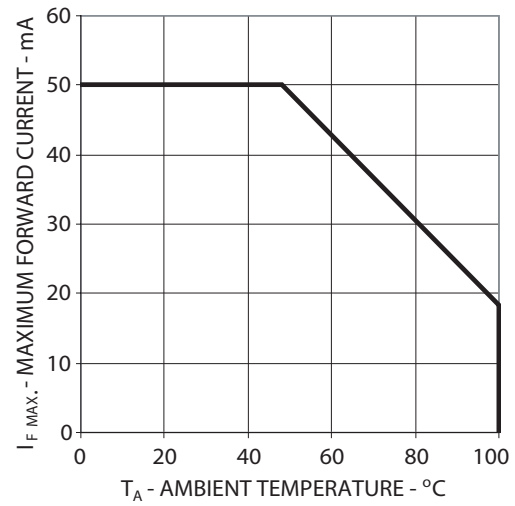
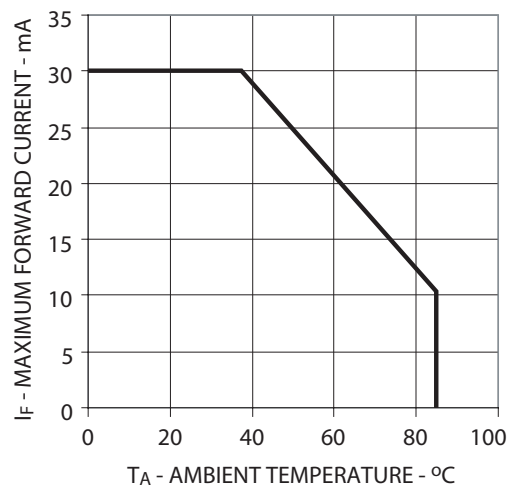

Figure 2: Maximum Forward Current vs Ambient Temperature
Figure 8: Maximum Forward Current vs Ambient Temperature
1. Derate linearly as shown in Figure 2 and Figure 8.